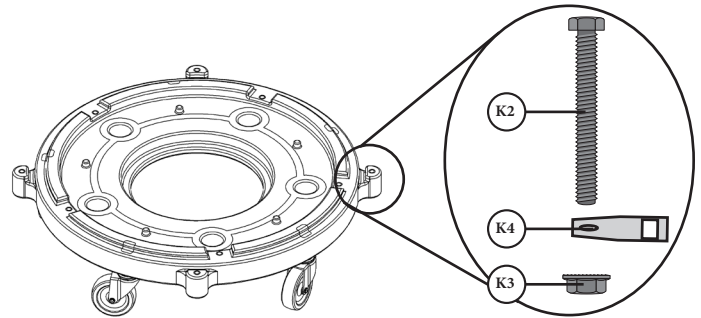

FIG. 17
- 17** Install Tether Strap Plate (K4) with Hex Head Bolt (K2) and Square Nut (K3) in the front of the Molded Drum Dolly (L) [FIG. 17].